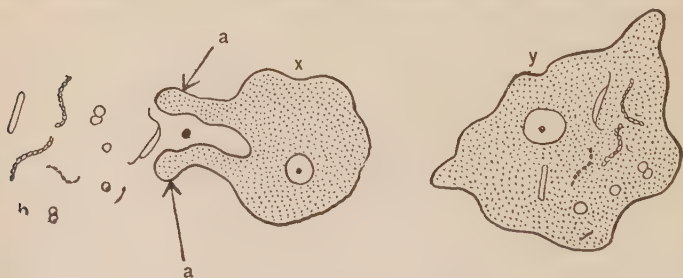

FIGURE 319. — WHITE CORPUSCLES AND BACTERIA.
creeping out of the capillaries, and going about between the cells (Fig. 319). Congregating in large numbers where the bacteria are numerous, they devour them, aided by substances in the blood which (1) cause the bacteria to stick together and (2) make them attractive to the white corpuscles.